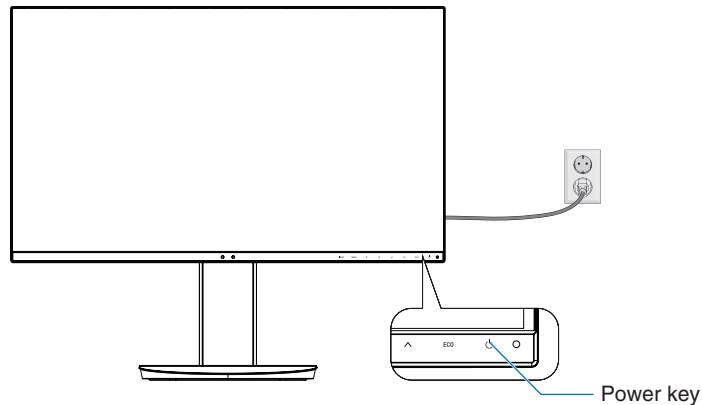

Figure E.1
8. Turn on the computer and then the monitor by touching the power key on the front bezel (**Figure E.1**).